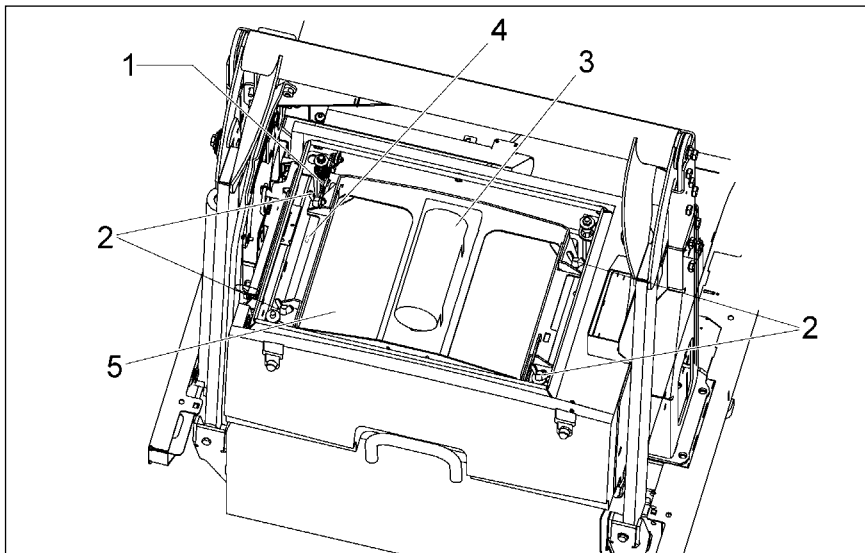

Fig.21
- Loosen wing screws (Fig. 21/2) and remove.
- Fold back frame with electro-motor (Fig. 21/3).
- Hook frame at indicated position (Fig. 21/4)
- Remove plate filter (Fig. 21/5).